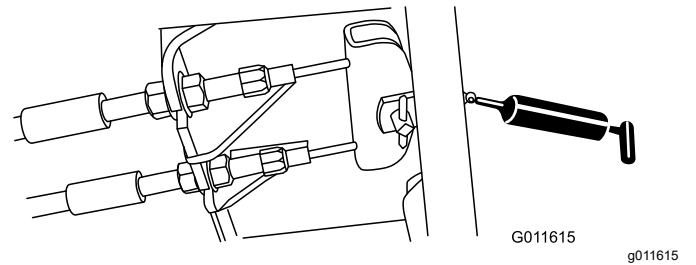

Figure 107
- Brake pedal (1) (Figure 107)